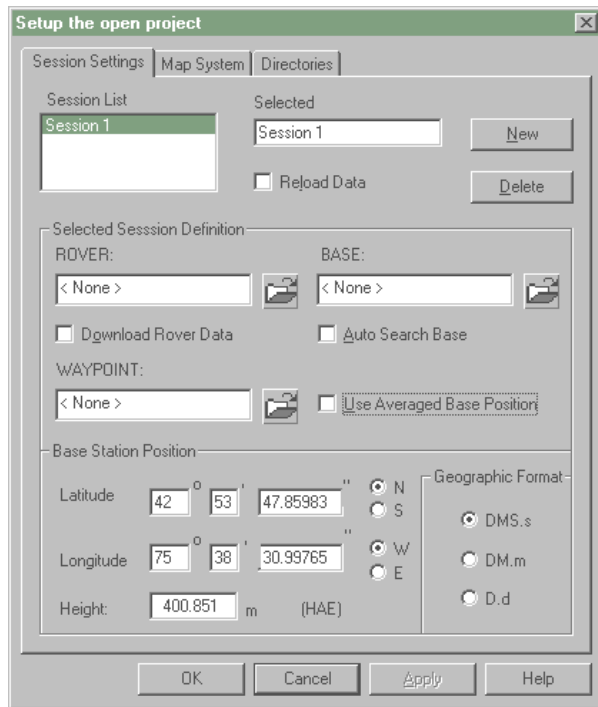

Figure 6. “Setup the open project” window.
- Click on the button that corresponds to “Project Setup” option on the “Project Setup” window. The “Setup the open project” window will appear as shown in Figure 6. Click on the “Open file” icon for the “Rover:” to view the list of available files in the default directory of the rover unit. Your rover file should be among those displayed. Select the file and click on the “Open” button. Repeat the same for the “BASE:” file entry, if you are interested in differentially-correcting your GPS measurements using the base station data.
11. Check the “Use Averaged Base Position” or enter the Latitude, Longitude, and Height of our base station in Charlton Hall as shown in Figure 6.